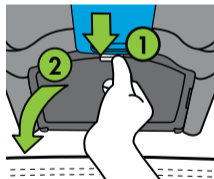

Figure 60
- Open LATCH Bin Door by pressing and holding top of Lock Tab then rotating LATCH Bin Door down, as shown in **Figure 60**.